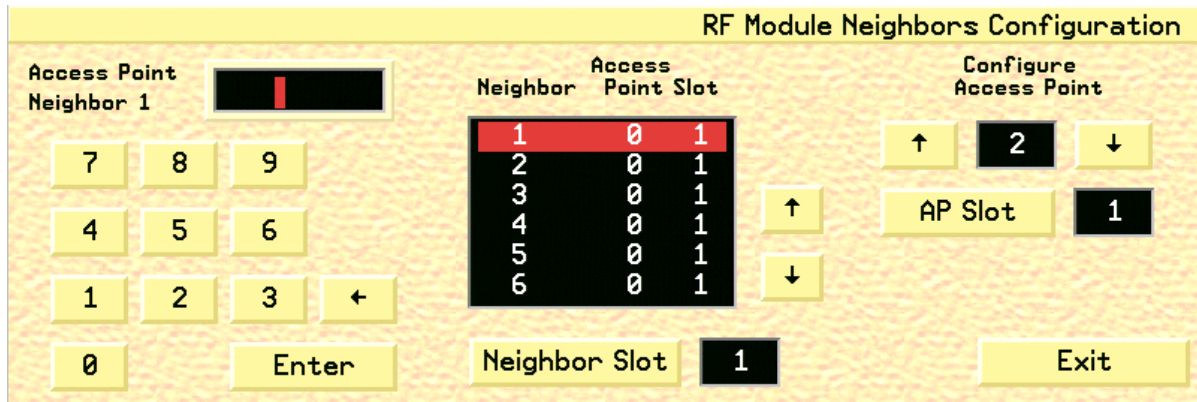

Fig. 69. RF Module Neighbors Configuration Screen
2. Click the **Neighbors** button on the RF Module Configuration screen to open the RF Module Neighbors Configuration screen (fig. 69).